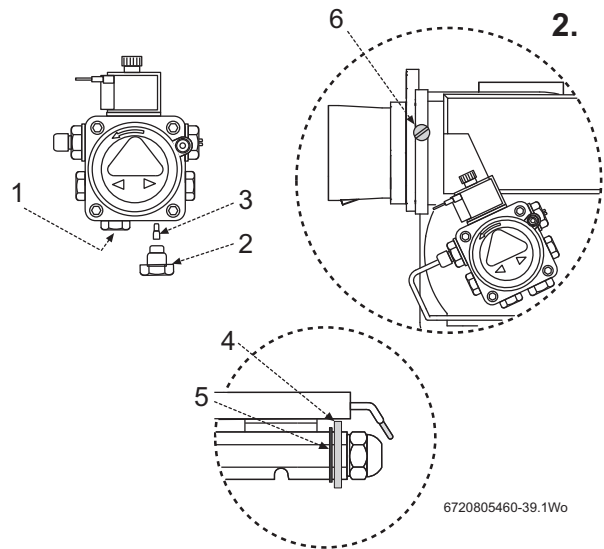
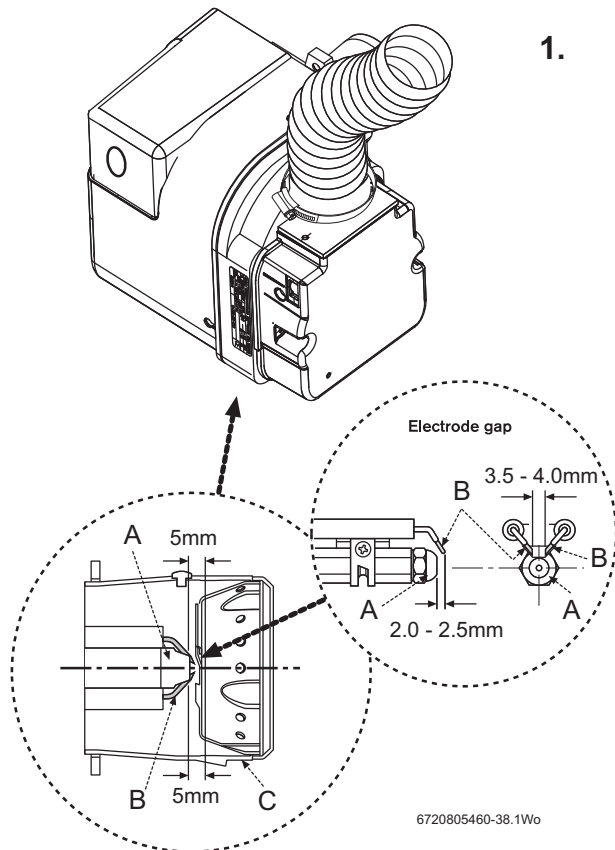

Fig. 44
Fig. 43 Nozzle and electrode alignment
1. Check that the nozzle (A) and the electrode (B) alignment settings are correct as shown in figure 43.
- ▶ Ensure that the nozzle (A) is aligned centrally within the combustion head (C).
- ▶ Before removing or fitting a nozzle (A), loosen screw (6 figure 44) and move the electrodes (B) forward. After refitting check that the electrode gaps are correct, as shown in figure 43.